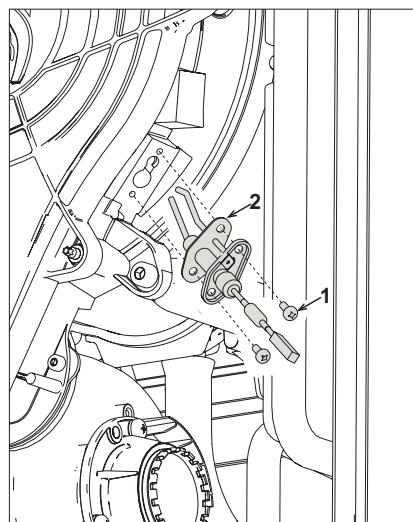

fig. 191 -
- To clean the exchanger, it is advisable to remove the electrode (see fig. 191)